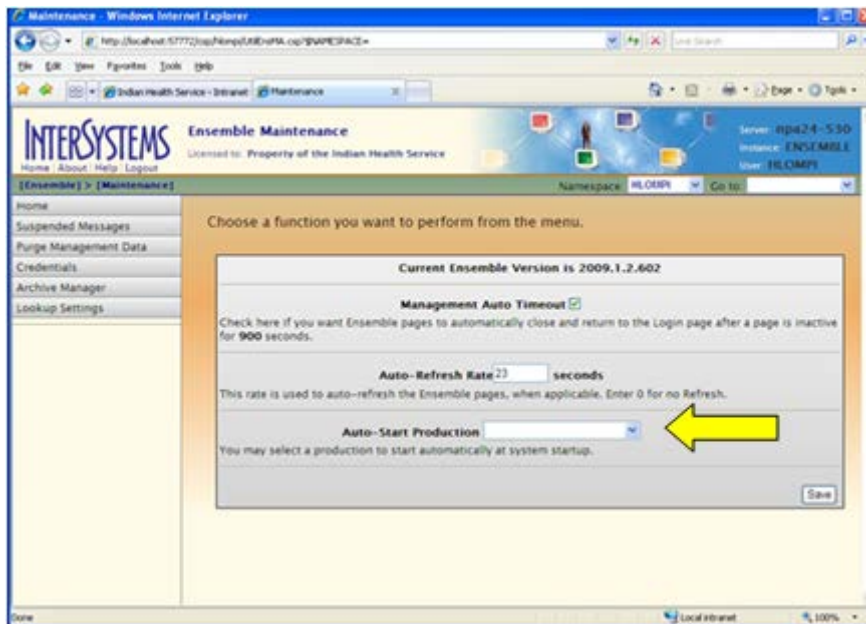

Figure 4-8: **Auto-Start Production** setting on the **Ensemble Maintenance** page
1. On the Ensemble Management Portal menu, click **Maintenance** to open the **Ensemble Maintenance** page, as shown in Figure 4-8.